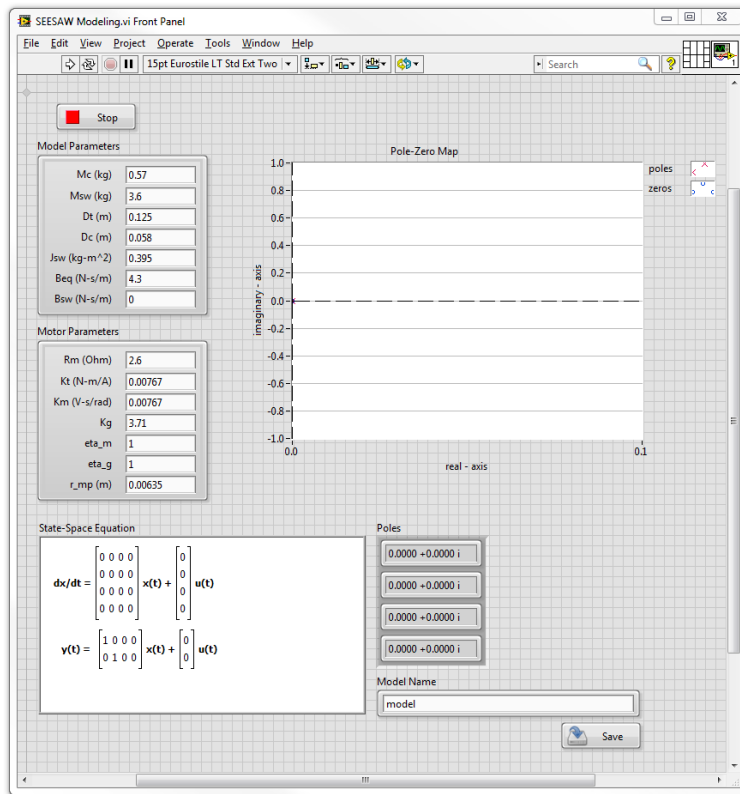

Figure 4.2: SEESAW-E Modeling VI
3. Open the *SEESAW Modeling.vi* shown in Figure 4.2.